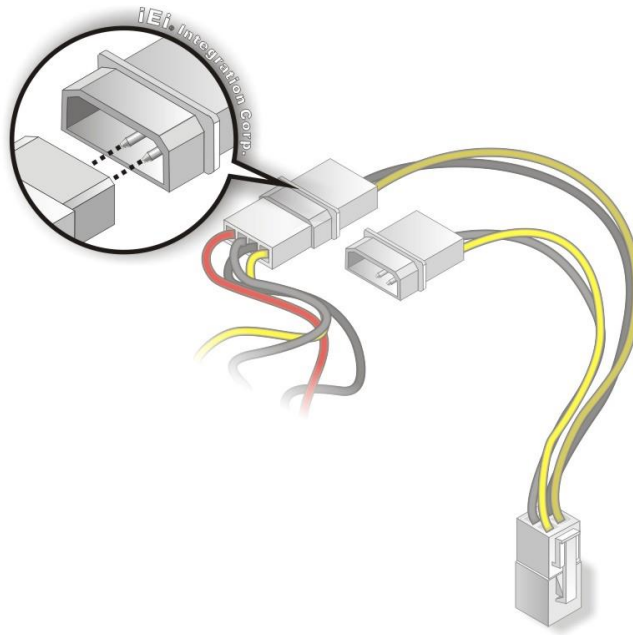

Figure 4-7: Connect Power Cable to Power Supply
Step 3: Connect power cable to power supply. Connect one of the 4-pin (1x4) Molex type power cable connectors to an AT power supply. See **Figure 4-7**